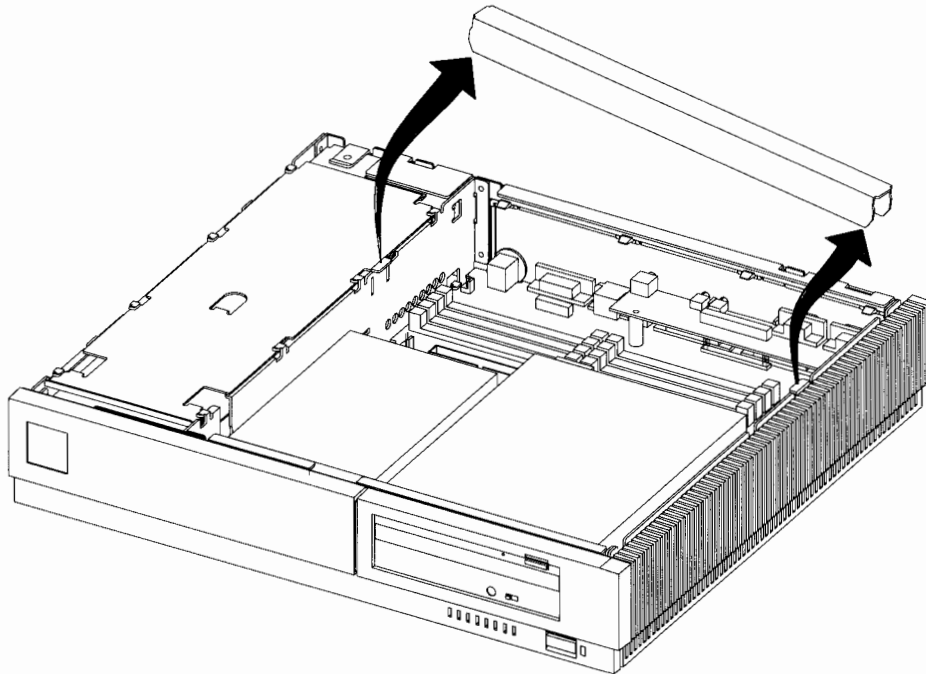

Figure B-4. Removing the Monitor Support Bracket
4. Lift the monitor support bracket up and out of the system, as shown in Figure B-4.
- 1.** Replace the monitor support bracket. (See Figure B-4.)